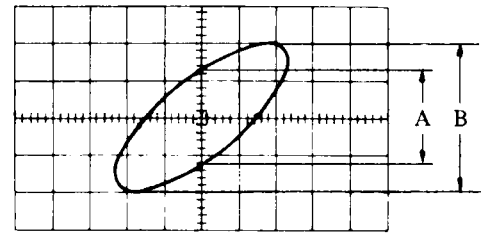

Figure 2-10 Phase Measurement With Lissajous Figures
**e. Phase Measurement.** For two equal-frequency signals less than 100 kHz, a Lissajous figure may be used to obtain a measurement of phase difference. Referring to Figure 2-10, measure distances "A" and "B" on the waveform. The phase difference  $\theta$  (in degrees) is given by: